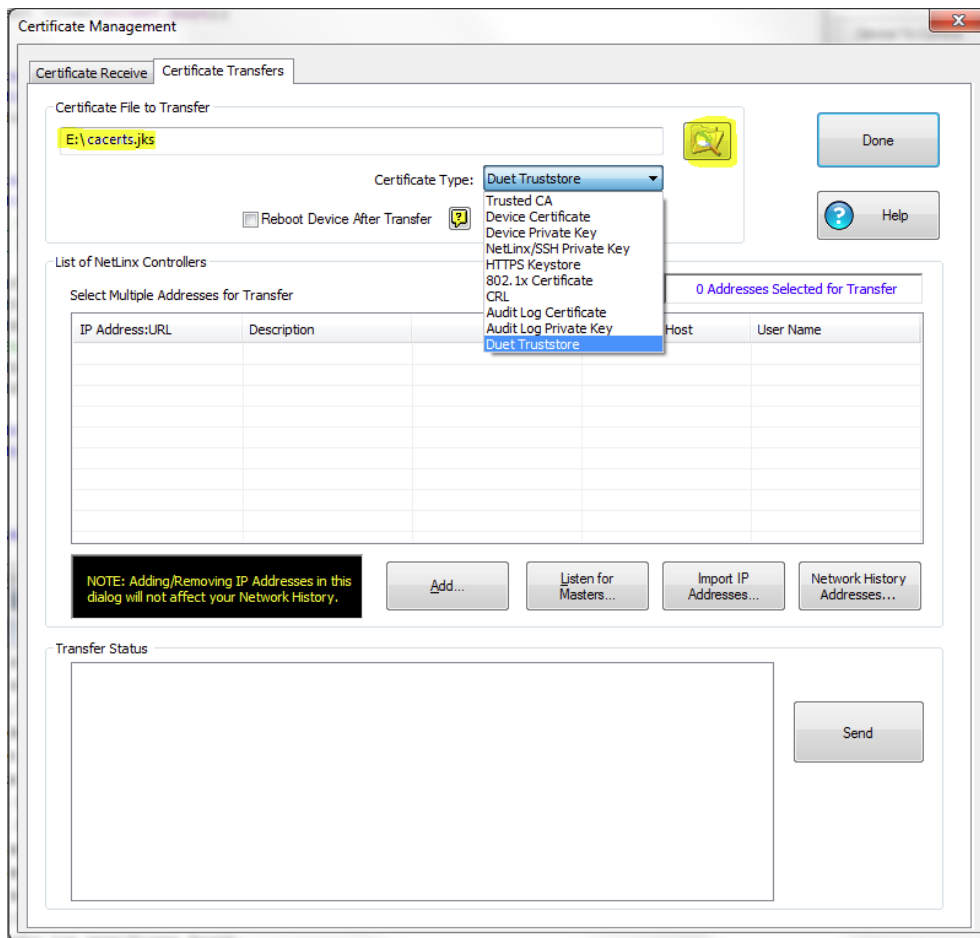

FIG. 478 Certificate Type - Duet Truststore
2. Go to the *Certificate Transfers* tab in the Certificate Management window, browse to the folder where you saved the duet.jks file and select it, and select **Duet Truststore** from the *Certificate Type* drop-down list (FIG. 478):